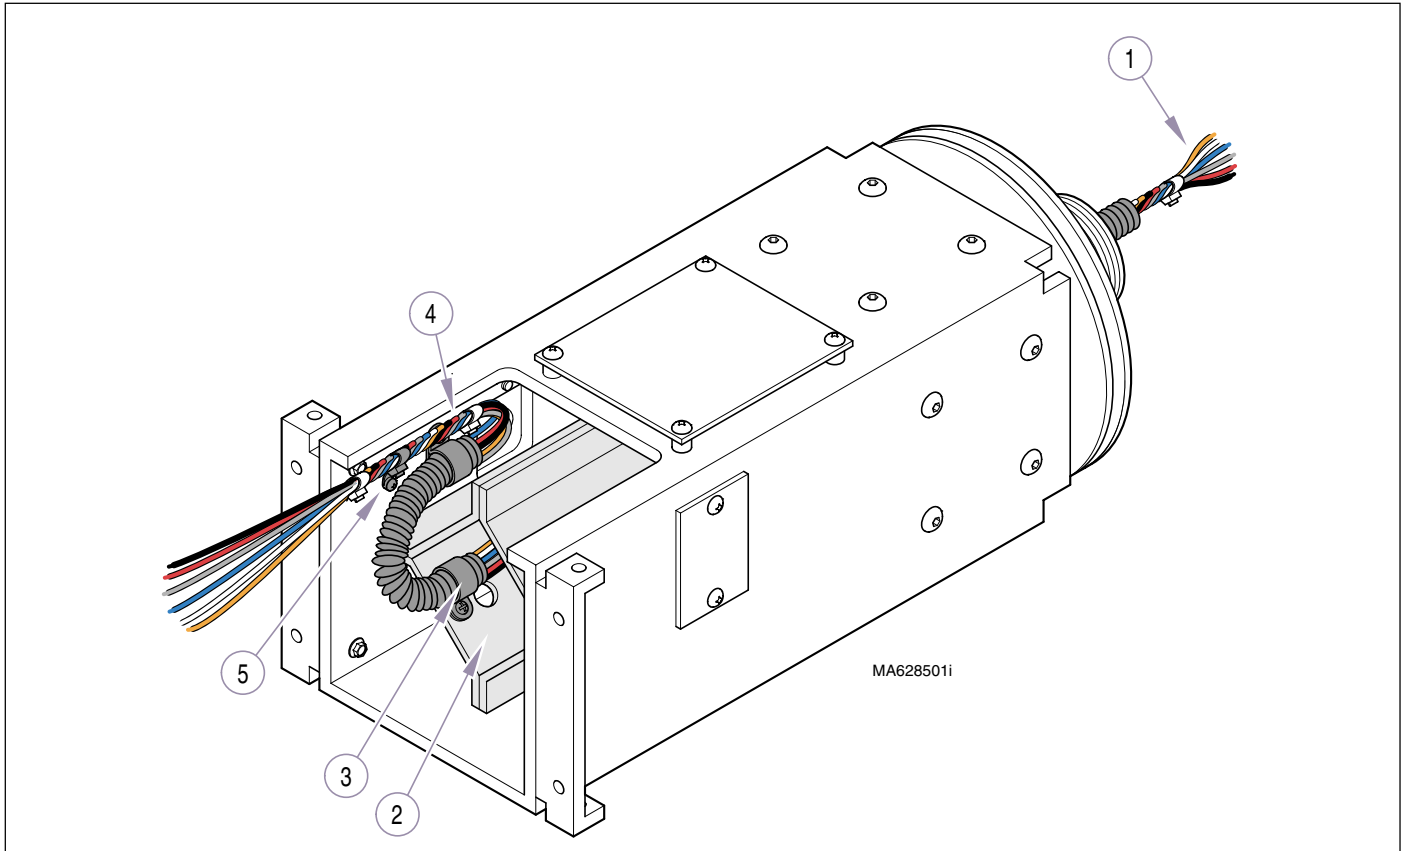

Figure 4-36. Main Harness
- (1) Route wire harness thru column. End (1, Fig. 4-36) of harness with longest protruding cordset (phone connector) goes thru top of column.
- (2) Secure harness to slide weldment (2) with cable clamp (3). Locate clamp 1/4" from end of flex guard.
- (3) Carefully twist loose leads together (4) and secure to column with cable tie (5).